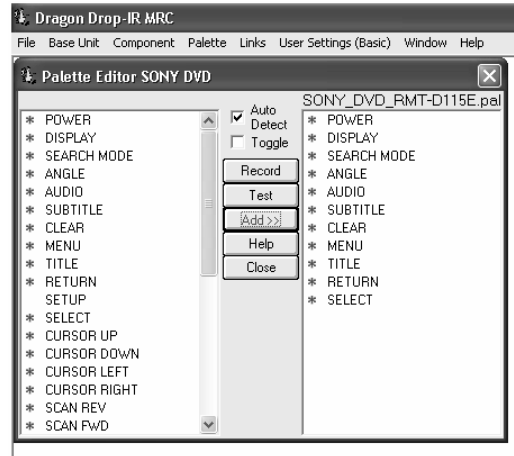

Figure 19: Creating a Palette File
4. The Palette Editor will now be open to the “Brand” & “Component” selected. A list of FUNCTIONS for that type of component will appear as shown in **Figure 19**. Review the list of Functions on the left hand side and compare to the source remote. If your function is not displayed or not named appropriately see the section entitled ‘Editing Function Names in the Palette Editor’.